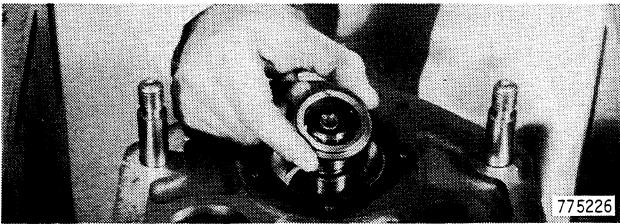

Figure 256
42. Remove stepped washer, shims and spacer, Figure 256.